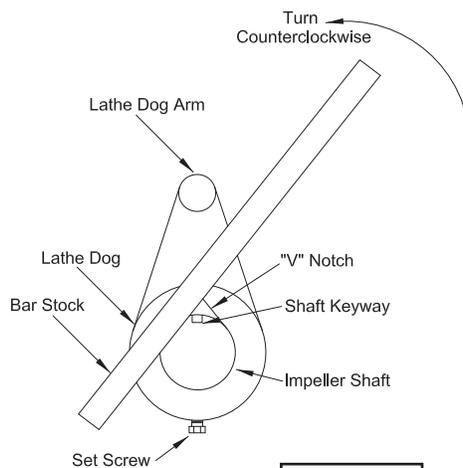

Figure 5
With the impeller (7) blocked use a long piece of bar stock to pry against the arm of the lathe dog in a counterclockwise direction (while facing the drive end of pump). Do not damage the shaft or keyway. Once impeller breaks loose, remove wood block and lathe dog. (See Figure 5).